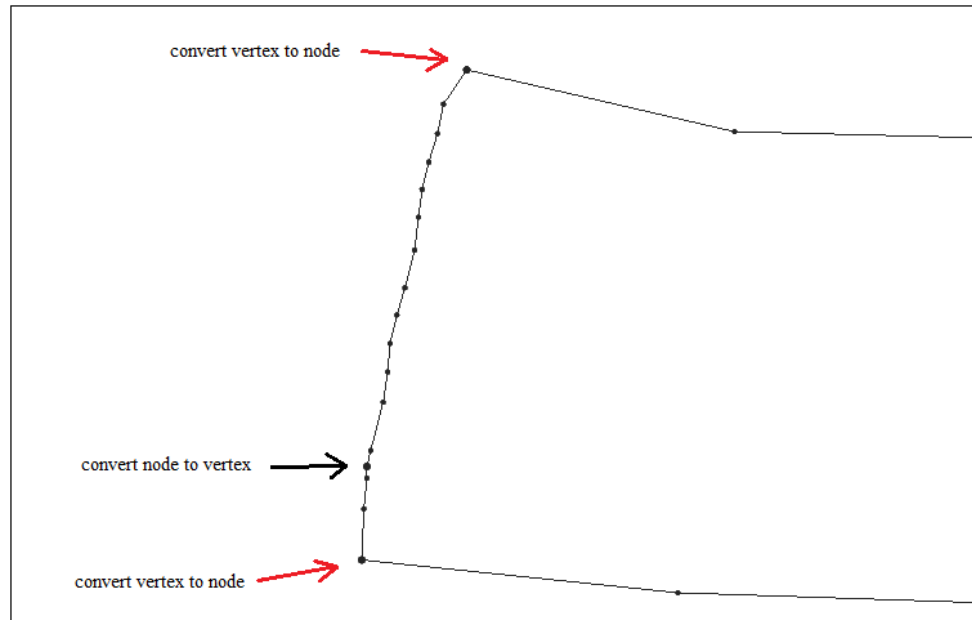

Figure 4 Nodes to be converted to vertices
13. Do the same to the lower boundary of the coverage (see red arrows in Figure 4).
- Right-click and choose **Convert to Vertex** (see black arrow in Figure 4).